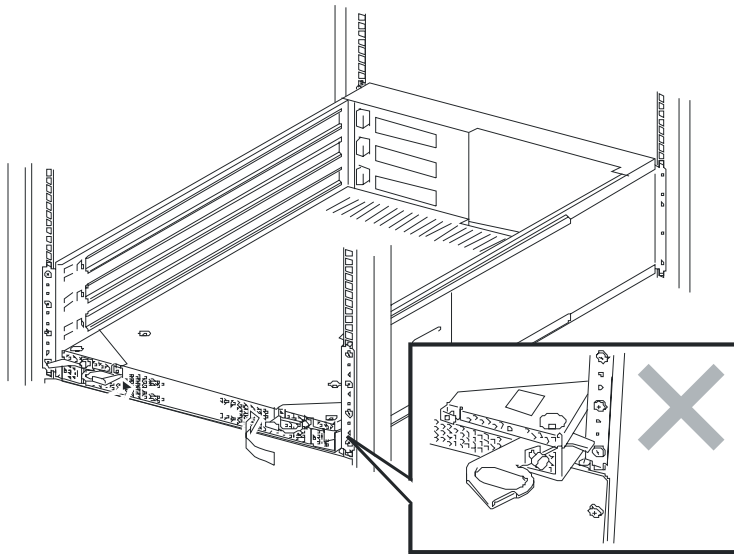

Figure 4-6. Locking the CPU Module in the Chassis.
4. Push the locking handles all the way their locked position. See Figure 4-6.